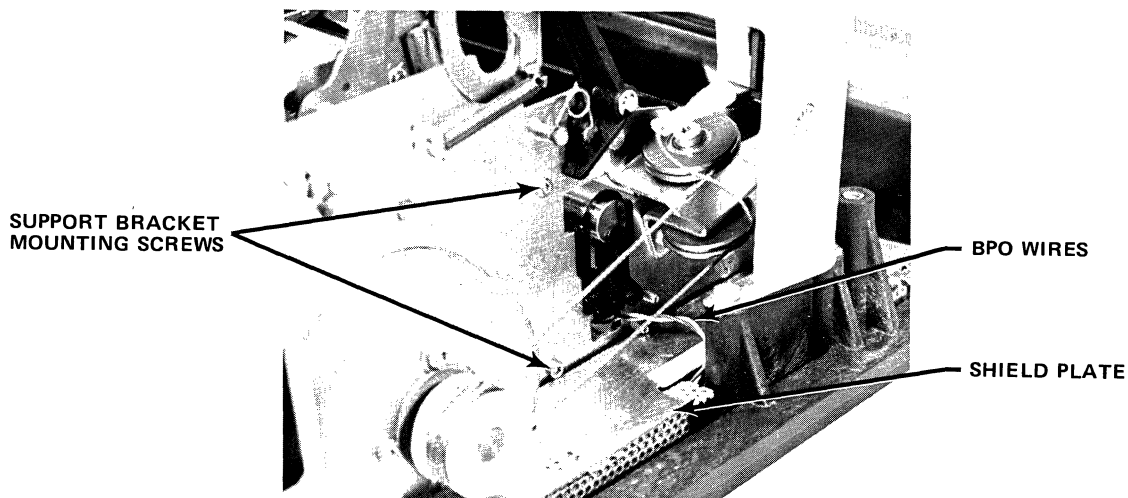

Figure 4-28. ROUTING OF THE BPO SWITCH WIRES
- 9) Remove the ribbon cable shield plate located along the left side of the unit (see Fig. 4-28). (Later units do not have this shield plate.)
- 20) Reinstall the shield plate over the cable trough, with the paper out switch wires exiting near the same point as the cover open switch wires (Fig. 4-28).
- 21) Push the left and right support brackets against the rear plate, and fasten the brackets to the printer frame with two 4-40 x 1/4" Torx drive pan head screws (2) on each bracket.